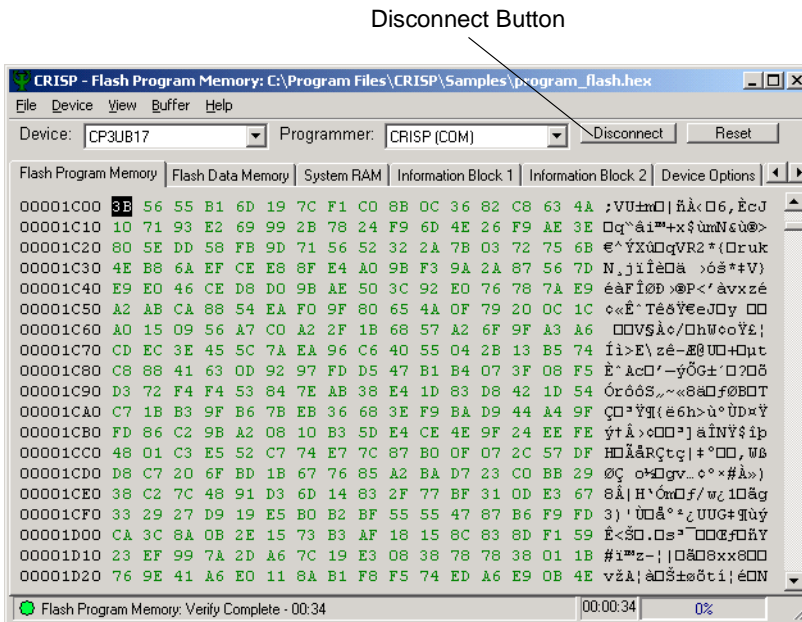

Figure 5-15. Click the Disconnect Button
1. **Initiate Closing the Connection.** Click the Disconnect button in the CRISP main window, as shown in Figure 5-15.